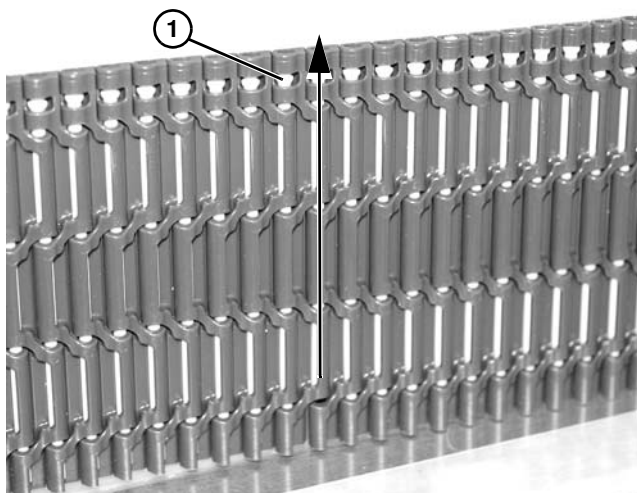

Figure 33
1. Choose one link on either end of the conveyor to remove belt pin. Locate end of rod without retaining feature (Figure 33, item 1).